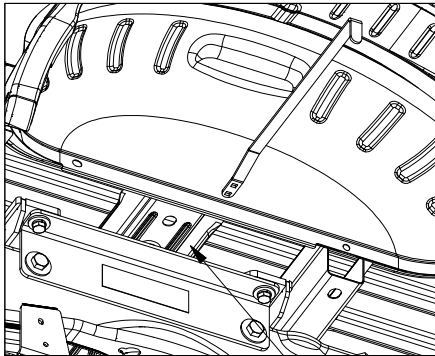

Figure E1: Driver Side Wheel Well. GROOVE IN BED FOR HANDLE TO PASS THROUGH
1. **Position Handle.** There is very little room between the bed and the frame. There is a groove in the bed structure that provides enough space to install the handle. Place the end of the handle with the holes in this groove and slide handle over frame as shown. See Figure E1.